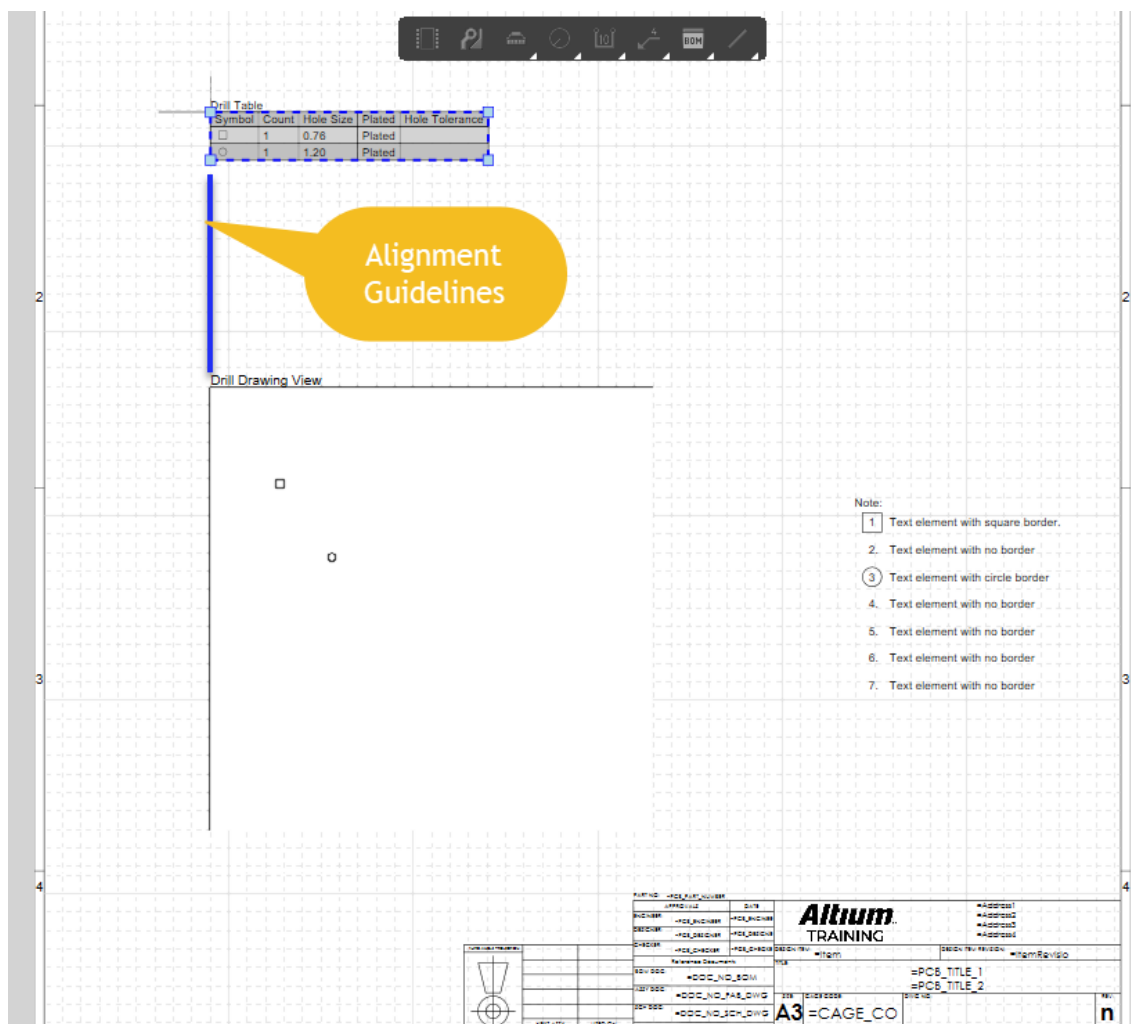

Figure 12. Auto Alignment guides
33. When selected, drag it from its original location, and place it just above the *Drill Drawing View* section. Once you get close enough, the auto alignment guidelines will appear to help you align the top of the *Drill Table* with the *Drill Drawing* view, as shown in Figure 12. This isn't mandatory, but helps in achieving a clean and professional drawing.